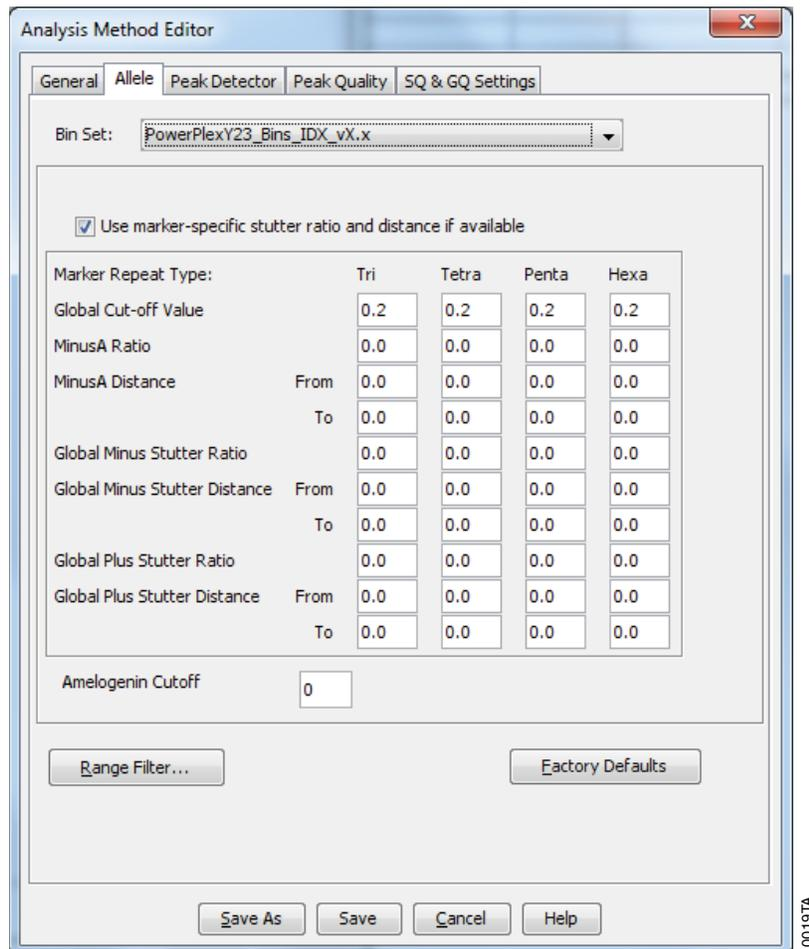

Figure 25. The GeneMapper® ID-X 'Allele' tab with settings for using a 20% peak filter.
6. Select the 'Allele' tab (Figure 25).
8. Ensure that the 'Use marker-specific stutter ratio and distance if available' box is checked. Doing this will assign locus-specific stutter filters and distances from the imported stutter file. Ensure that the appropriate global filter is applied to this analysis method. For example, for a 20% filter enter "0.20" for the Global Cut-off Value for Tri, Tetra, Penta and Hexa repeats (Figure 25).